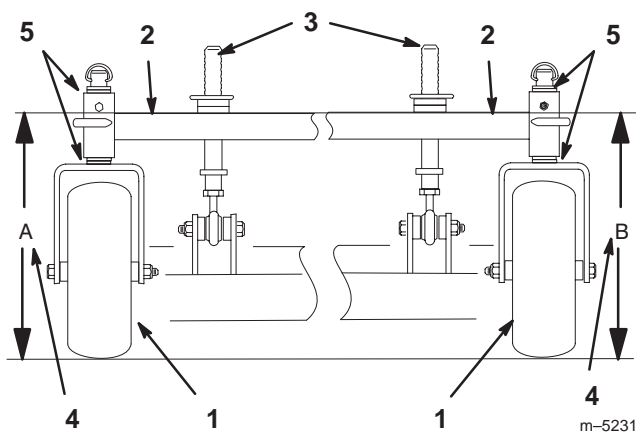

Figure 61
3. Measure carrier frame height at location “A” (Fig. 61).
4. Measure carrier frame height at location “B” (Fig. 61).